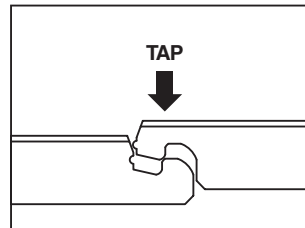

Fig. 2
- Use spacers along all sides that butt up against walls to maintain 3/8" (6.35 mm) to 1/2" (12.7 mm) expansion zone. Expansion zone is required around the perimeter of the room as well as against any fixed objects. Lay pieces from left to right. Lock the end joints by aligning the end tongue with the end groove of the previous board then tapping the joints together. (Fig 2).